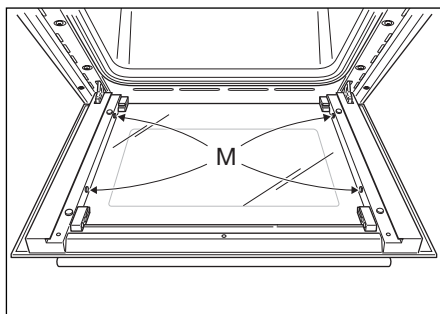

Fig.23a
- Check that the four rubber pads are in place ("M" in Fig. 23a)